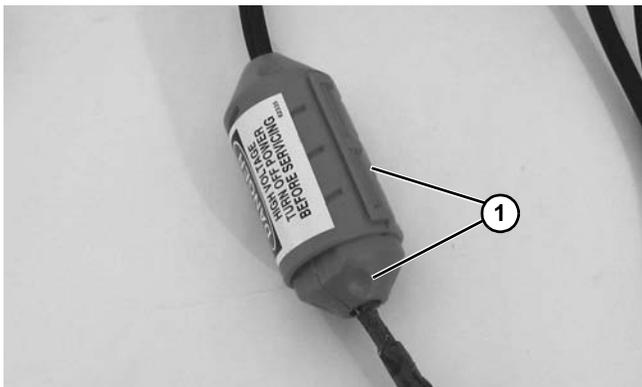

Figure 40
1. Twist covers (**Figure 40, item 1**) apart.